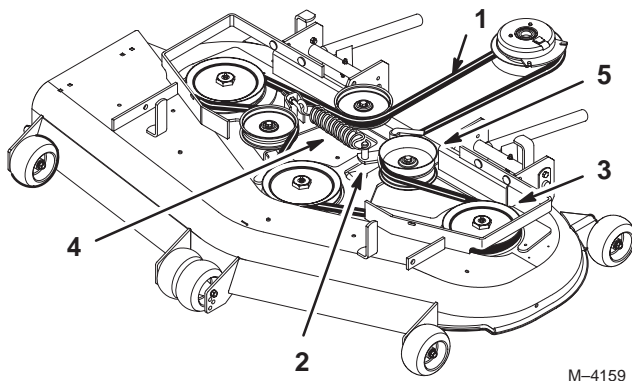

Figure 54
4. Remove the belt. Start at the outside pulley and rotate the belt off (Fig. 54).
7. Install the idler pulley and route the belt onto the other pulleys (Fig. 54).